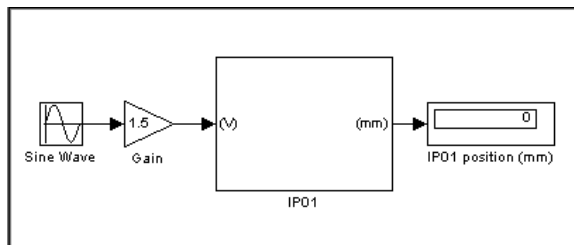

Figure 15 Model using the IP01 Subsystem
Step 2. Figure 15, below, provides an example of model using the IP01 block. Create and run in real-time the model represented in Figure 15. You should be able to replicate the observations previously made in Sections Applying a Voltage to the DC Motor and Measuring from the IP01 Cart Potentiometer.